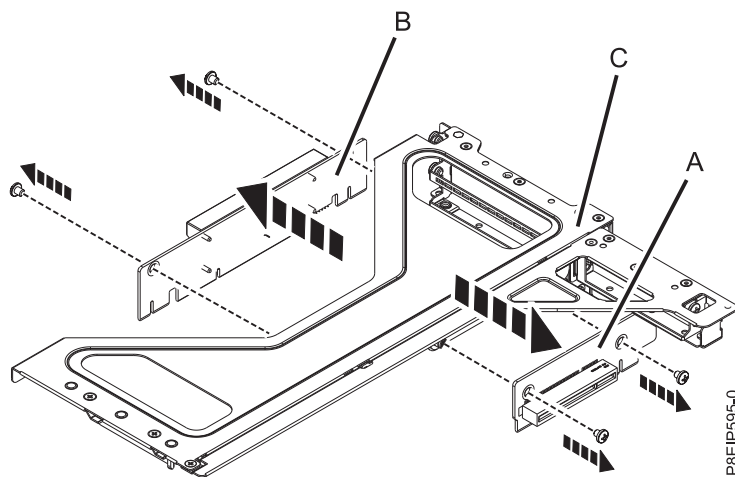

Figure 38. Removing the PCIe riser cards from the adapter cage
7. If you need to remove the riser cards for positions 3 (A), or 4 or 5 (B); remove the screws that secure the PCIe riser card to the cage (C) as shown in Figure 38.